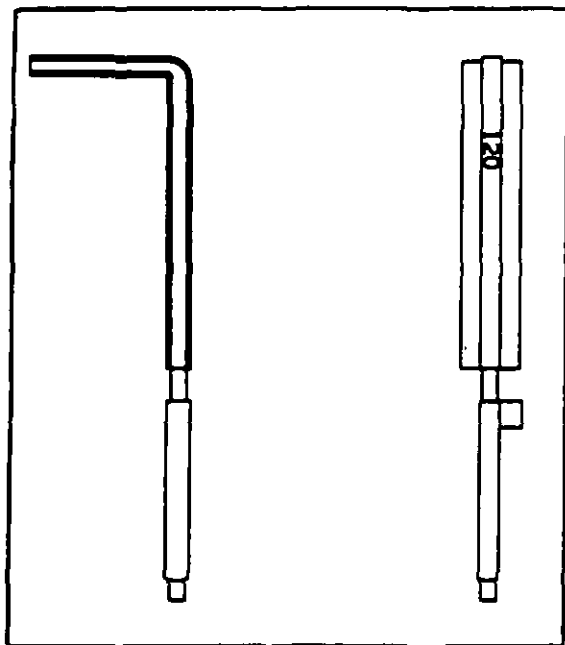

Figure 30
f) Insert the change key into the keyhole in the back of the lock (refer to Figures 30 and 31). The key is fully inserted when the bend in the key reaches the cover plate. Turn the key in the direction indicated on the back of the lock until it will not turn any farther. Do not force the key.